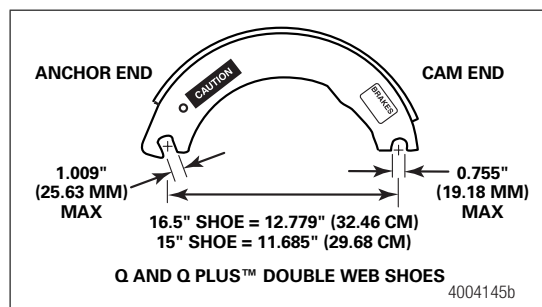

Figure 4.1
1. For 16.5-inch brake shoes only, anchor pin holes must not exceed 1.009-inches (25.63 mm) in diameter. The distance from the center of the anchor pin hole to the center of the roller hole must not exceed 12.779-inches (32.46 cm). Replace brake shoes with measurements that do not meet specifications. Figure 4.1.
2. For 15-inch brake shoes only, anchor pin holes must not exceed 1.009-inches (25.63 mm) in diameter. The distance from the center of the anchor pin hole to the center of the roller hole must not exceed 11.685-inches (29.68 cm). Replace brake shoes with measurements that do not meet specifications. Figure 4.1.